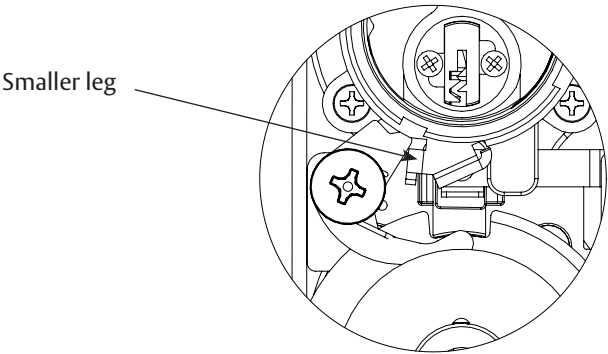

Figure 5-3B
- b. Insert key override ring into cylinder with "smaller leg" between cam as shown in Figure 5-3B.